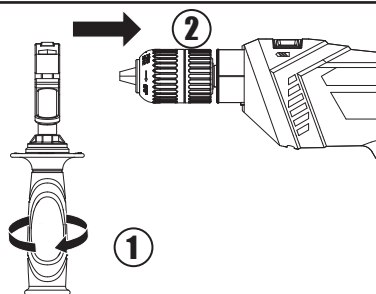

Fig. A1
1. INSTALLING THE AUXILIARY HANDLE (See Fig. A1,A2)